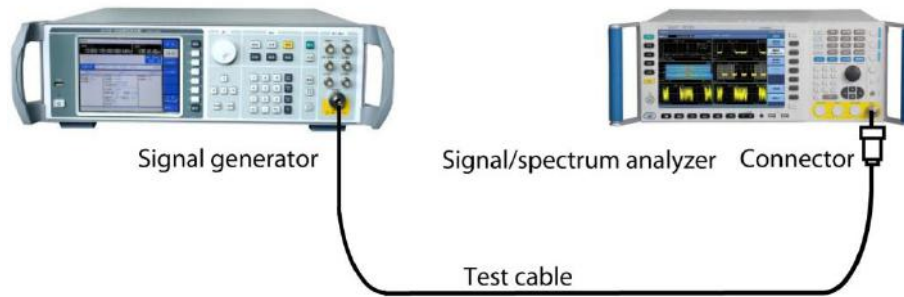

Fig. 4.78 Connection Settings of Third-order Intermodulation Measurements
**Step 1. Connect the RF output ports of two signal sources with a directional coupler, and place the device under test (e.g. an amplifier) in between the output port of the directional coupler and input port of the analyzer, as shown in Fig.4.78.**